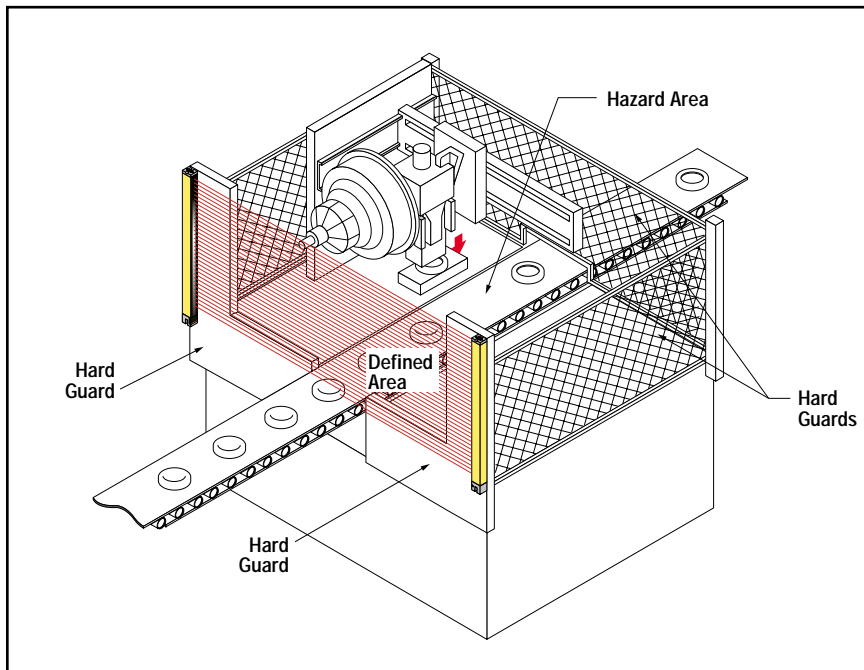

Figure 3-2. Example of hard guarding
ANSI B11.1-1988, 6.3.2 (14) requires that "all areas of entry to the point of operation not protected by the presence-sensing device shall be otherwise safe-guarded." The hazard point must be accessible *only* through the defined area. This means that mechanical barriers (screens, bars, etc.), or supplemental presence-sensing devices (*supplemental guarding*) must be installed, wherever needed, to prevent any person from reaching around, under, or over the defined area and into the hazard point. The use of mechanical barriers for this purpose is called "hard guarding" (see the WARNING at right and Figure 3-2, below).